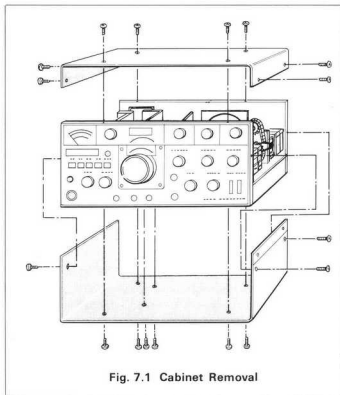

Fig. 7.1 Cabinet Removal
7.2 REMOVING THE CABINET (FIG. 7-1)